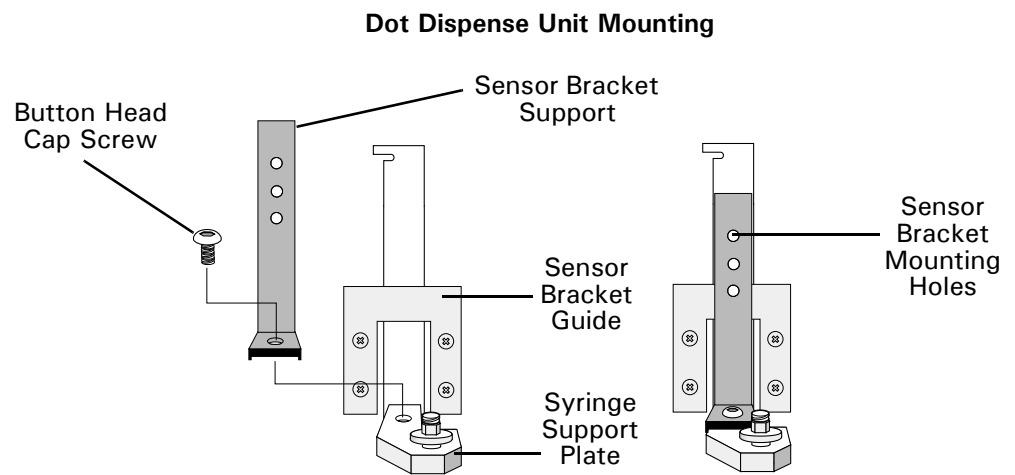

Figure 2
- a. For Dot Dispense Unit assemble sensor bracket support onto syringe support plate and secure with socket button head cap screw. See Figure 2.